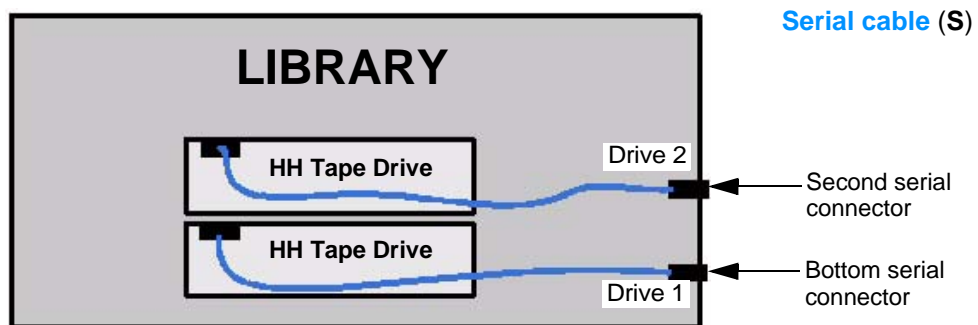
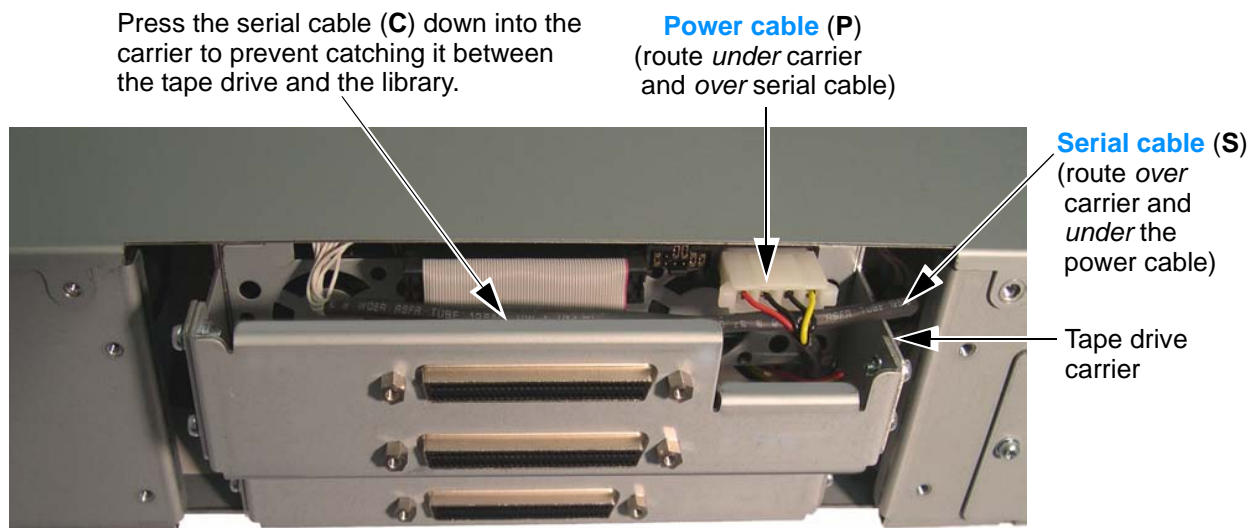

Figure 7-2 Serial cable routing—half height tape drives
Figure 7-7 Upper half height tape drive cable routing
- a. Locate the serial cable (**S**) that came in your replacement kit and attach it to the appropriate serial connector *inside* the library. Route the cables as shown in Figure 7-2 and Figure 7-7.
Half height tape drive—see Figure 7-2
Serial—Route the serial cable (**S**) *over* the tape drive carrier and *under* the power cable; connect as shown in Figure 7-2 (HH serial cable routing).